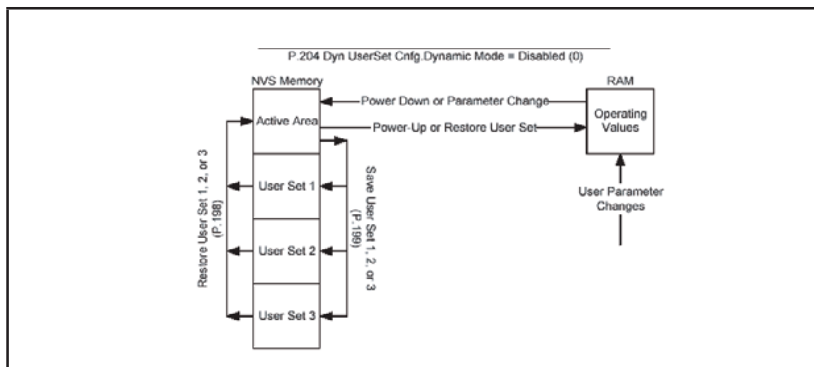
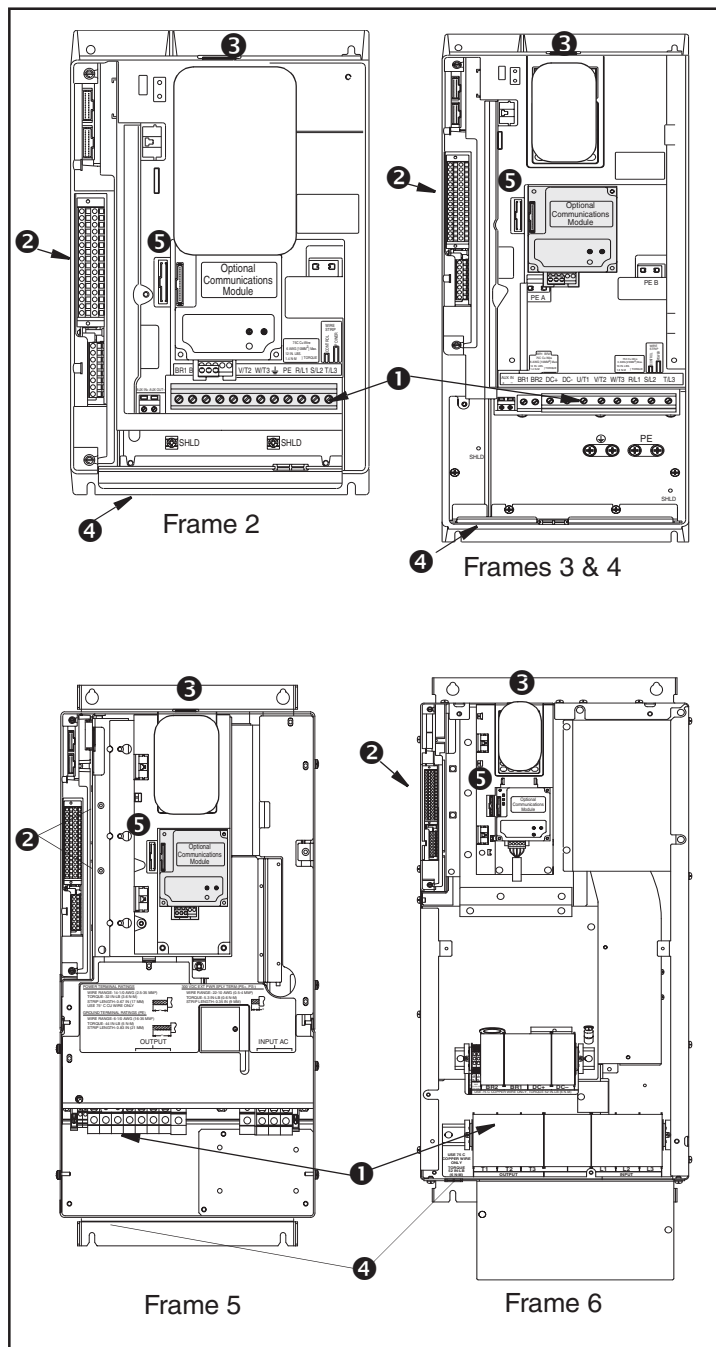

Figure 2.2 – Normal Mode Operation
Figure 2.4 – Drive Connections
Figure 2.4 shows the locations of the drive terminal blocks and connectors used to set up and operate the drive. Table 2.3 identifies the drive connections shown with the corresponding number in figure 2.2.
The flat-ribbon cable connector (labeled ⑤ in figure 2.2) is a parallel bus connection port that provides a means of attaching optional communication modules such as the DeviceNet Communication module to the SP600 AC drive.
The remote OIM connects to DPI port 2 at the bottom of the drive frame (labeled ④ in figure 2.2). Note that you must change the appropriate parameters (89 and 90) to enable control from the remote keypad.